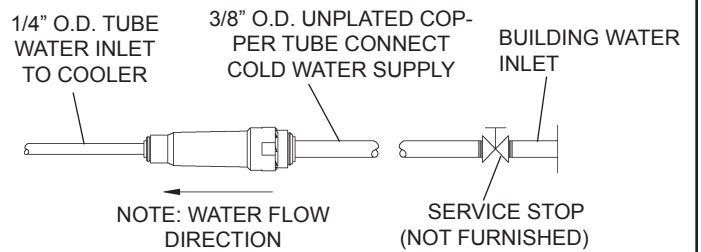

Figure 11 - Water Supply Connections
1. **Make** water supply connections (Fig 11). Install a shut-off valve and union connection to building water supply (valve and union not provided). Turn on water supply and flush the line thoroughly.